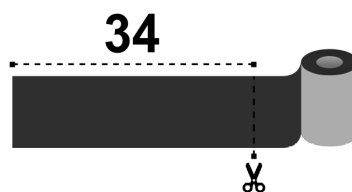
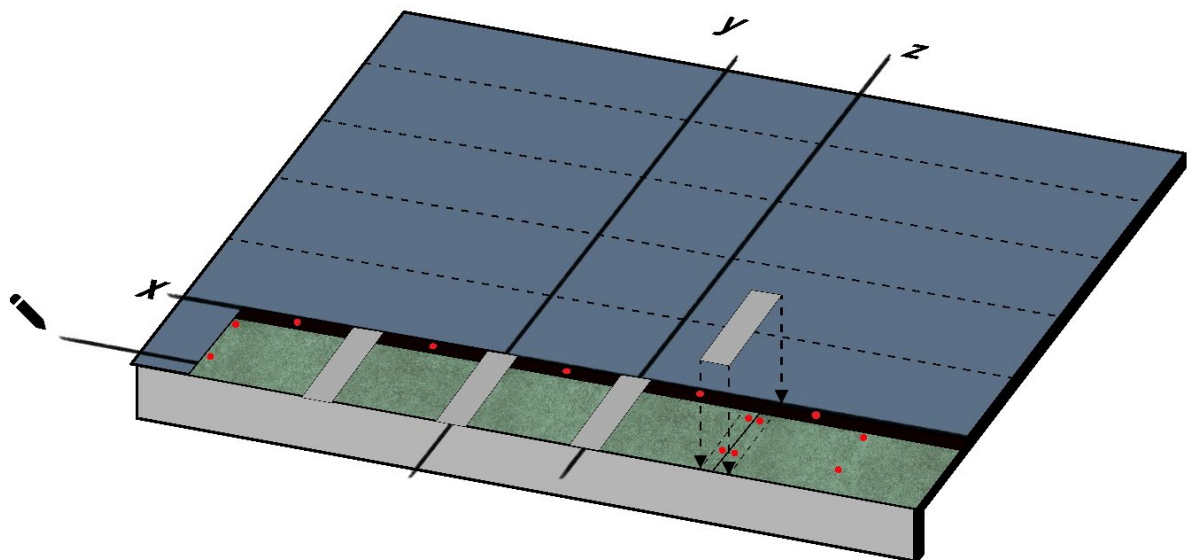
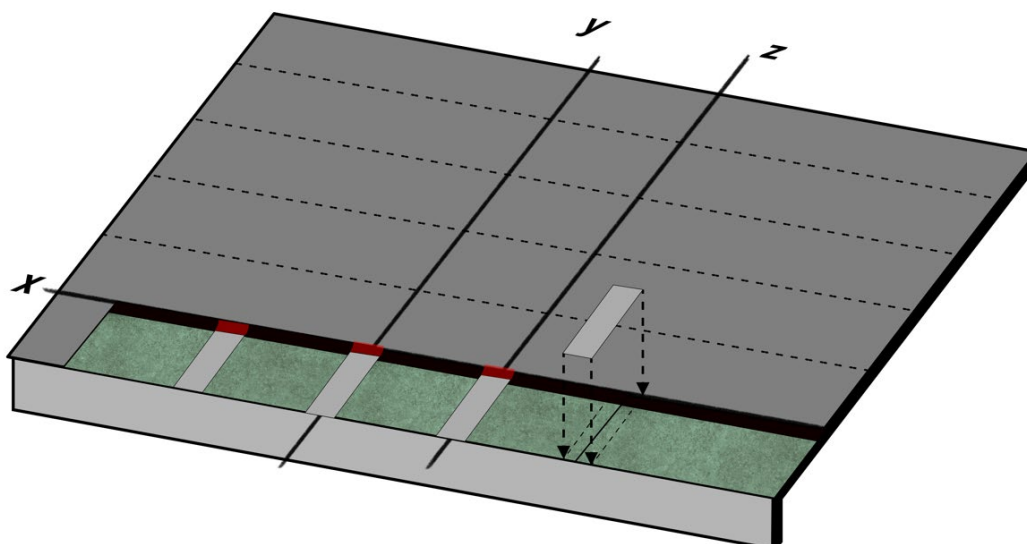
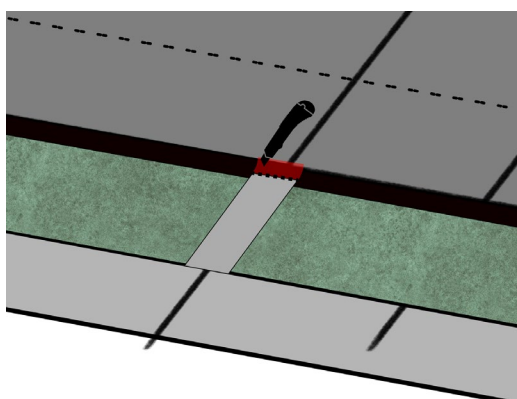

Fig. 7 - Compact Strip
Fig. 8 - Compact Strip installation
Fig. 19 - Compact Strip installation
Fig. 20 - Cutting the upper part of the Compact Strip protective film
- From the roll of Compact Strip sealant, cut some pieces 34 cm long - Fig. 7. Position the first prepared piece of Compact Strip at the centre of the joint between two consecutive shingles (Fig. 8) and a second piece in the middle of the shingle, applying pressure to ensure perfect adhesion to the substrate. Do not remove the top non-stick film from the Compact Strip. The Compact Strips so placed, will seal all the nails installed.
- From the Compact Strip roll, cut pieces of 34 cm in length –Fig. 7. Place the first prepared piece of Compact Strip at the centre of the joint between two consecutive shingles (Fig. 19) and a second piece at the centre of the shingle, applying sufficient pressure to ensure perfect adhesion to the substrate. Do not remove the top non-stick film from the Compact Strip but only cut off the upper part indicated in red in Fig. 20, exposing a portion of the butyl tape.